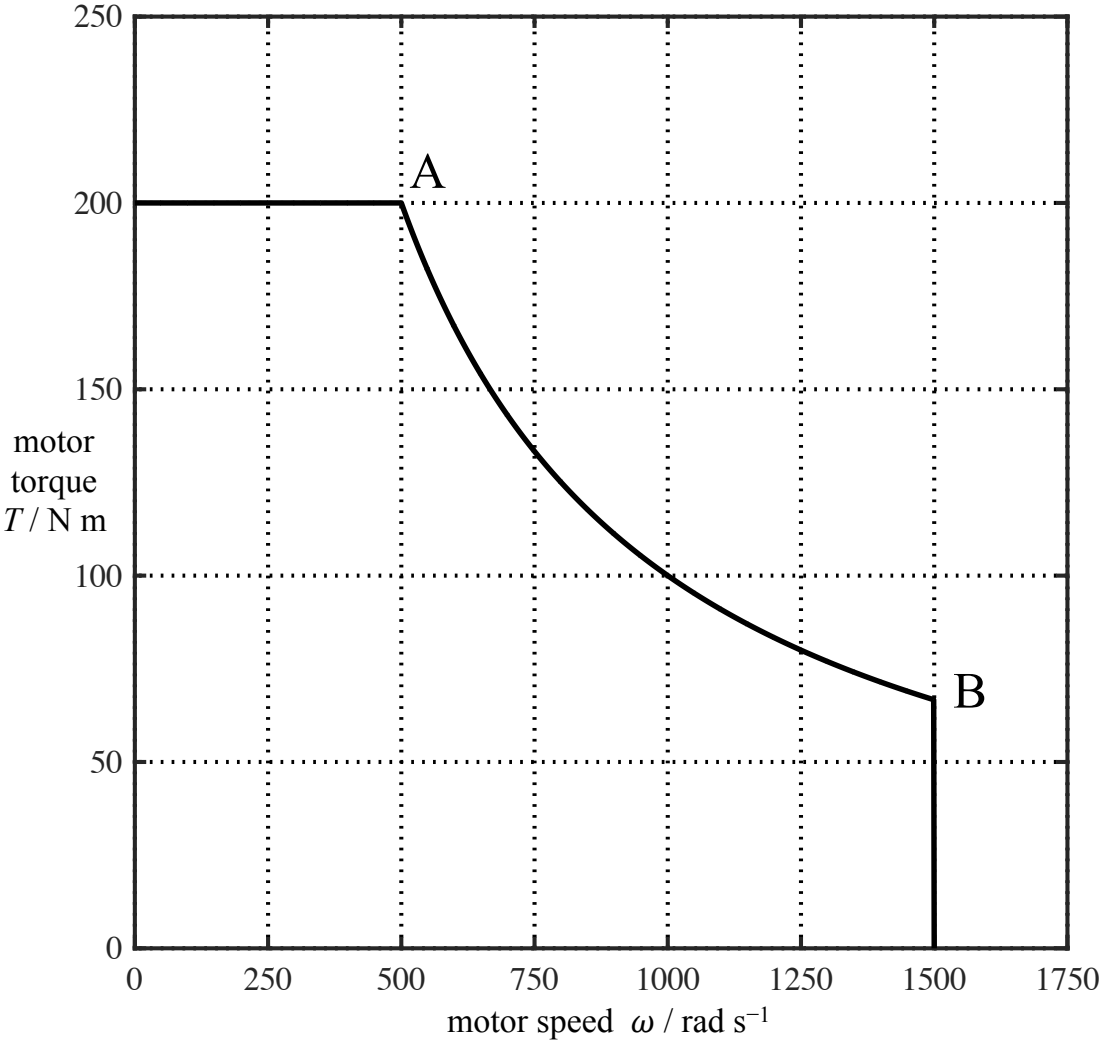

Fig. 1
Supplementary page: one extra copy of Fig. 1 (Question 1)
1 The output characteristic (maximum torque  $T$  versus speed  $\omega$ ) of an electric motor is shown in Fig. 1. The torque is a constant 200 N m between 0 and 500 rad s-1. Between 500 rad s-1 and 1500 rad s-1 the power output is constant. The maximum speed of the motor is 1500 rad s-1.
*An additional copy of Fig. 1 is attached to the back of this paper. It should be detached and handed in with your answers.*
- (c) Different values of  $G$  could put the operating point at A or at B, shown on Fig. 1. Comment on the behaviour of the vehicle at each of these operating points. [15%]
Extra copy of Fig. 1: Motor output characteristic for Question 1.